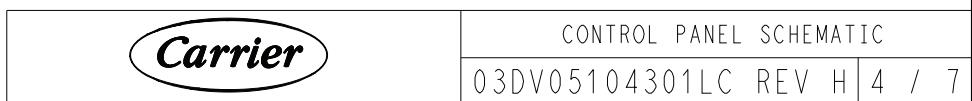

Fig. 4 – IOB 4
- a. See Fig. 4 for IOB4 wiring diagram.
- b. For pressure readings, only Vout (output) terminal is indicated. See Fig. 4 for Vin (+) and ground (−).